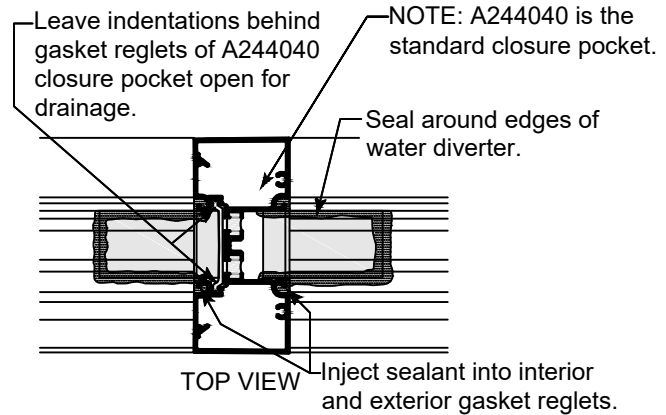
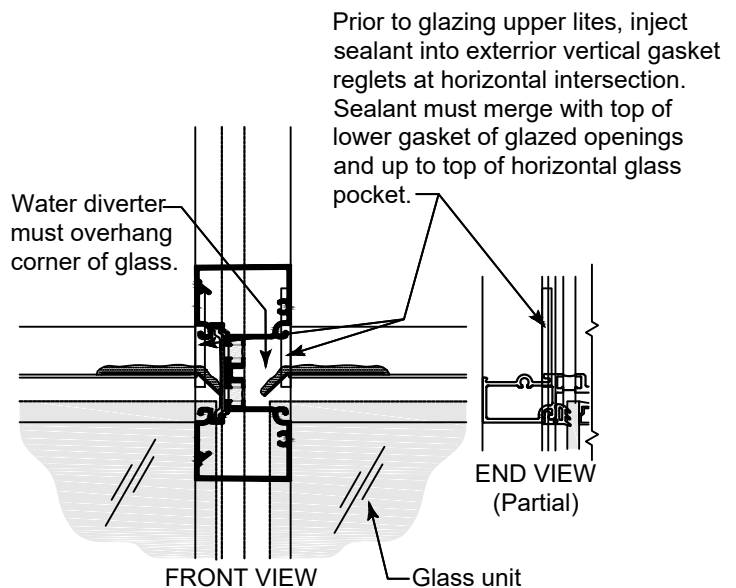

Fig. 34.1
Fig. 34.2
- B. Set the glass by installing into the deep pocket of the vertical first, then carefully sliding into the shallow pocket. Set glass onto (2) setting blocks located at quarter points or per approved shop drawings. Consult glass manufacturer if glass size exceeds 40 sq. ft.
- I. Prior to glazing the next row of lites, install water diverter P1135 at ends of intermediate horizontals. See Figure 34.1.
NOTE: Position water diverter to cover glass corner. Seal diverter to horizontal, leaving the gap at the front and side open in the vertical glazing pocket. See Figure 34.1 & Figure 34.2. Also see isometric details on page 35.